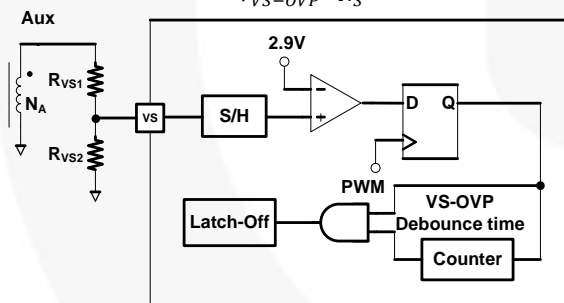

Figure 47. VS-OVP Protection Circuit
VS over-voltage protection prevents damage caused by output over-voltage condition. It is operated in Latch-Off mode. Figure 47 shows the internal circuit of VS-OVP protection. When abnormal system conditions occur, which cause VS sampling voltage to exceed  $V_{VS-OVP}$  ( $2.9 \text{ V}$ ) for more than 2 consecutive switching cycles ( $N_{VS-OVP}$ ), PWM pulses are disabled and FAN602L enters Latch-Off protection. VS over-voltage conditions are usually caused by open circuit of the secondary side feedback network or a fault condition in the VS pin voltage divider design,  $R_{VS1}$  is obtained from Equation (10), and  $R_{VS2}$  is determined by the desired VS-OVP protection function as: